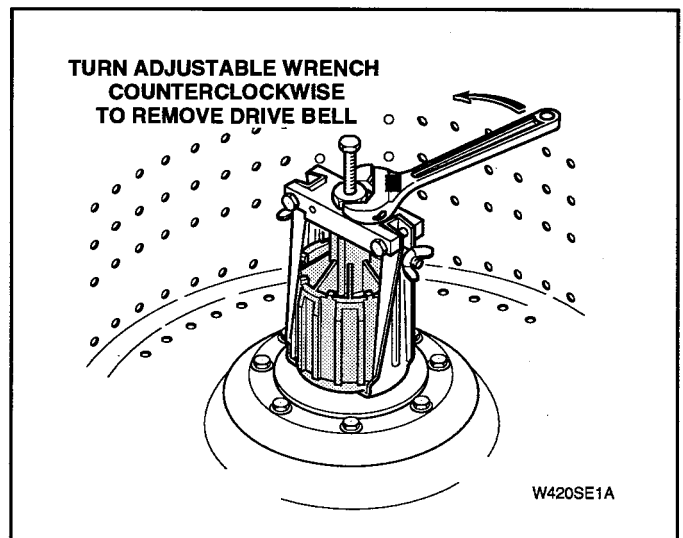

Figure 5-14
- g. Using an adjustable wrench, turn large nut on tool **COUNTERCLOCKWISE** to pull drive bell from transmission output shaft. See Figure 5-14.